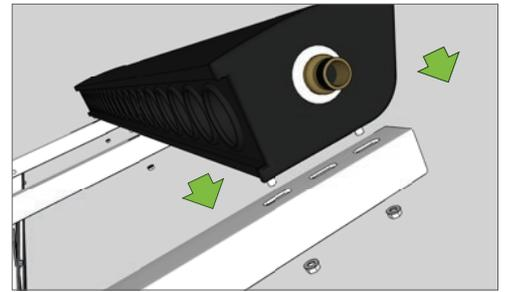

Fig 4
5. Position header along the top sections of stand assembly locating the threaded studs into the existing slotted holes in each section of the stand. Fix header section into position by using the supplied hex nuts with spring and flat washers at the stand underside location - 6 locations (Fig 4)